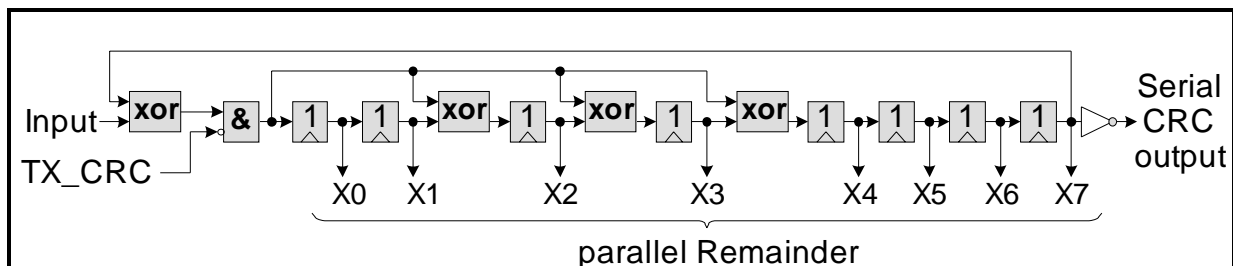

Figure 13 Fast CRC polynomial division circuit
- After the CRC and Slave-Active byte have been sent the transfer ends. The TLE5010 always sends logical "1" and all following sent bits from the SSC Master are ignored (TLE5010 is in idle mode). To enable data transfers again the chip select pin (CS) of the TLE5010 has to be deselected for CS_{off} (see Table 13) once.
- Generator Polynomial: $X^8+X^4+X^3+X^2+1$, for the CRC generation the fast CRC generation circuit is used. (See Figure 13)
Figure 13 shows the fast CRC Polynomial.